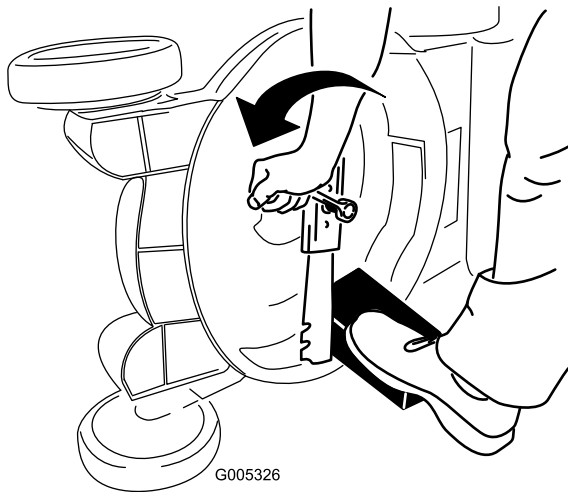

Figure 39
3. Use a block of wood to hold the blade steady (Figure 39).
4. Remove the blade, saving all mounting hardware (Figure 39).